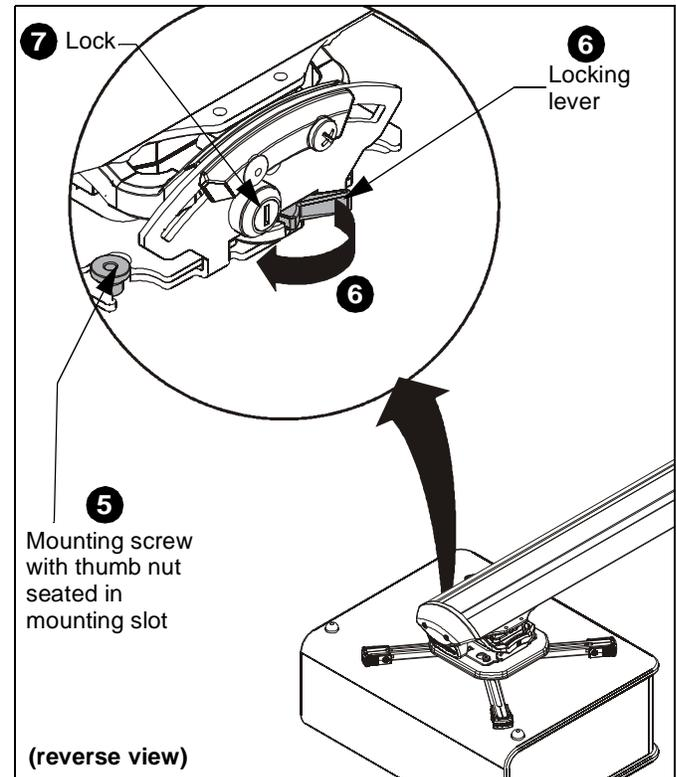

Figure 19
5. Verify mounting screws are properly seated in mounting slots in projector mount. (See Figure 19)
6. Move locking lever to "locked" position. (See Figure 19)
7. Insert key into lock and turn to secure projector to mount. (See Figure 19)